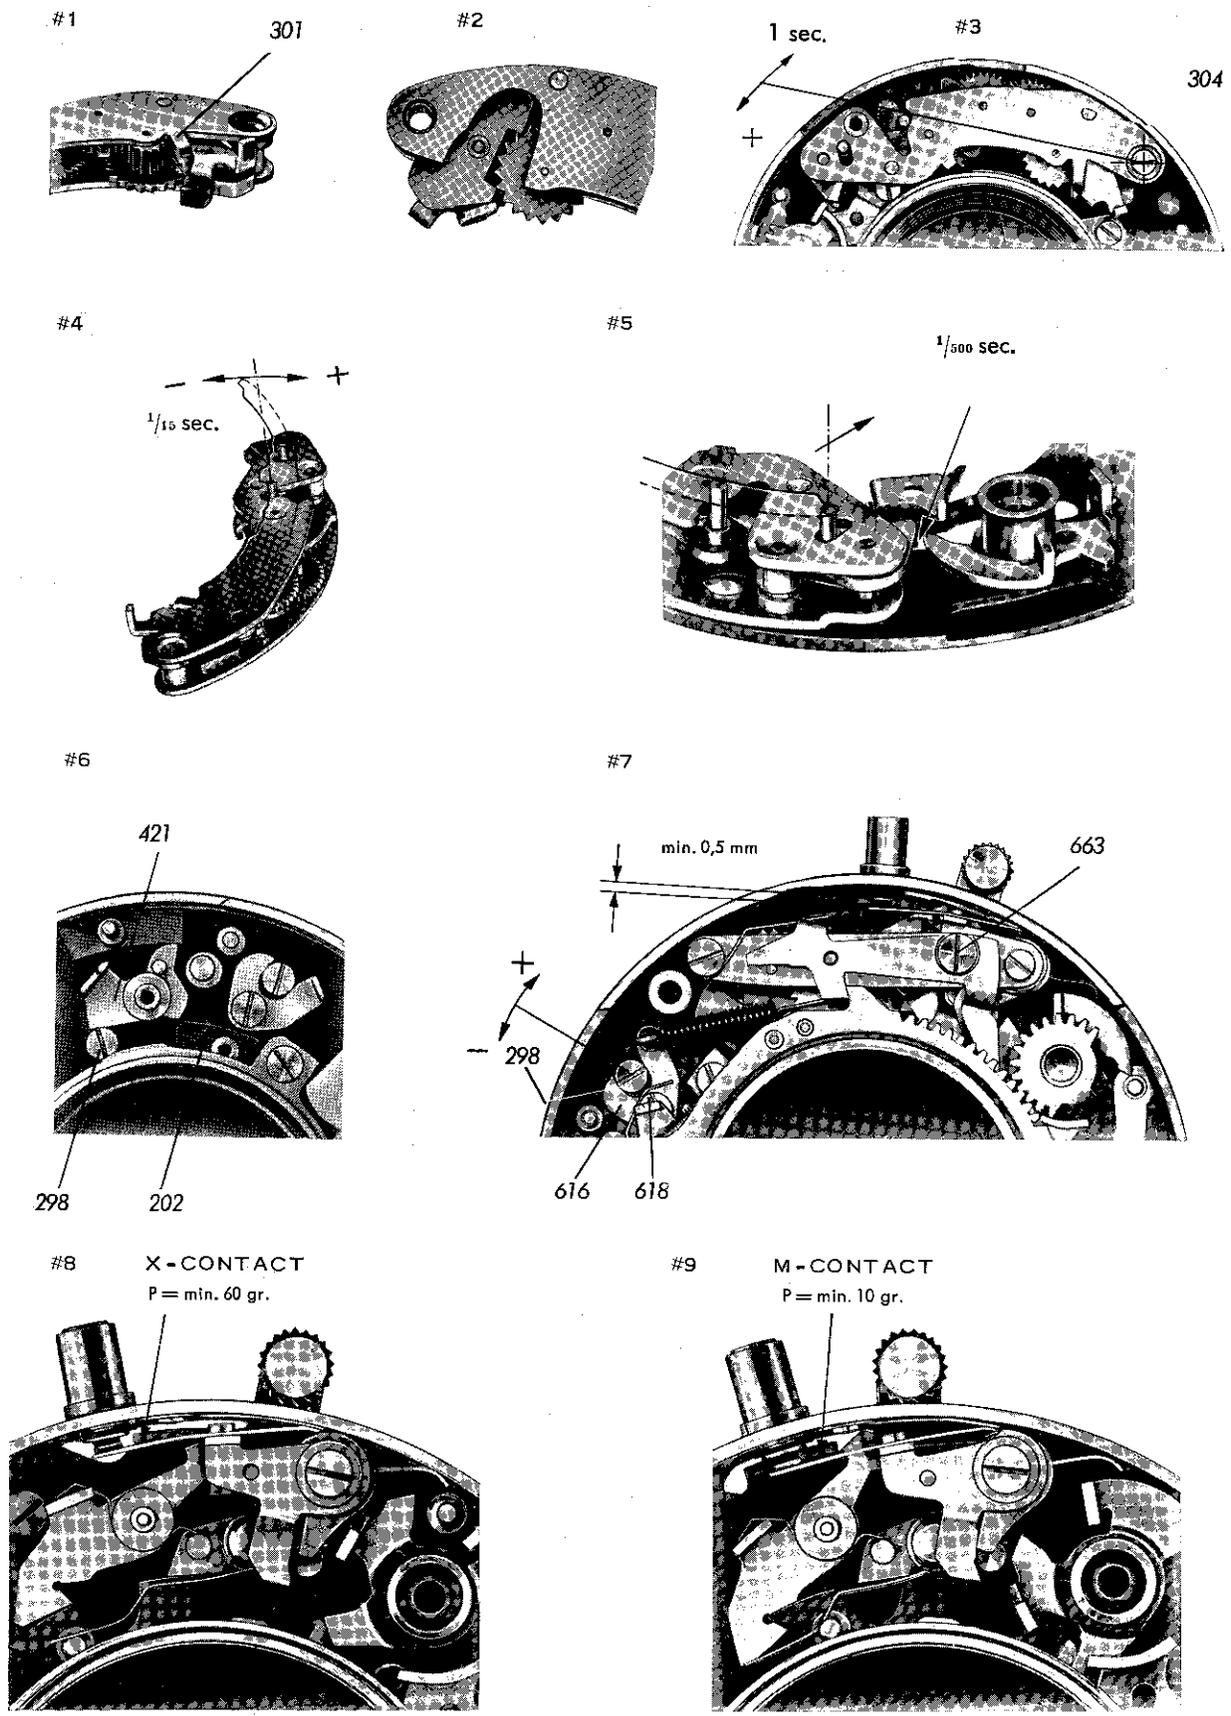

Figure 5-3
- E. ESCAPEMENT 300: The depth of engagement of the escapement lever is factory adjusted so with the lever plate 319 resting against adjusting lug of plate 301, it amounts to 1/2 to 1/3 of the height of the tooth. See Figure 5-3, #1 and #2.
- 1. 1-Second (See Figure 5-3, #3). Back off the two securing screws and pivot the escapement about screw 304 on the lever side (toward the mounting tube for increased exposure time, or toward the periphery of the case for shorter exposure time). Firmly tighten the two securing screws upon completion of adjustment.
- 2. 1/15 Second (See Figure 5-3, #4). With cam ring 552 in position, bend the detent pin as required (toward tubular mount for shorter exposure, and toward the periphery of the case for longer exposure).
3. 1/500 Second (See Figure 5-3, #5). The cam ring should render escapement lever 341 inoperative to such an extent that drive 514 can run down without any obstruction. For this purpose, the pin of the check lever should be bent as required.
Stop 298 for the V-detent lever 421 is in the form of an eccentric, thus permitting the play to be adjusted between the V-detent lever and blade ring 202 (Figure 5-3, #6). The play should be such that, with the self-timer out of operation, the blade ring can run down freely; the self-timer, when used, will run for no more than one second after the shutter is released.
The minimum contact gap with the shutter cocked should be 0.5 mm (0.020"). In the case of Synchro-Compur, measure the contact gap in the M position. See Figure 5-3, #7.